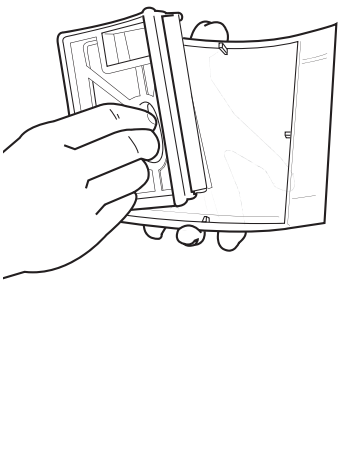

FIG. 15
Step 2: Remove filter frame from top filter cover (FIG. 15).